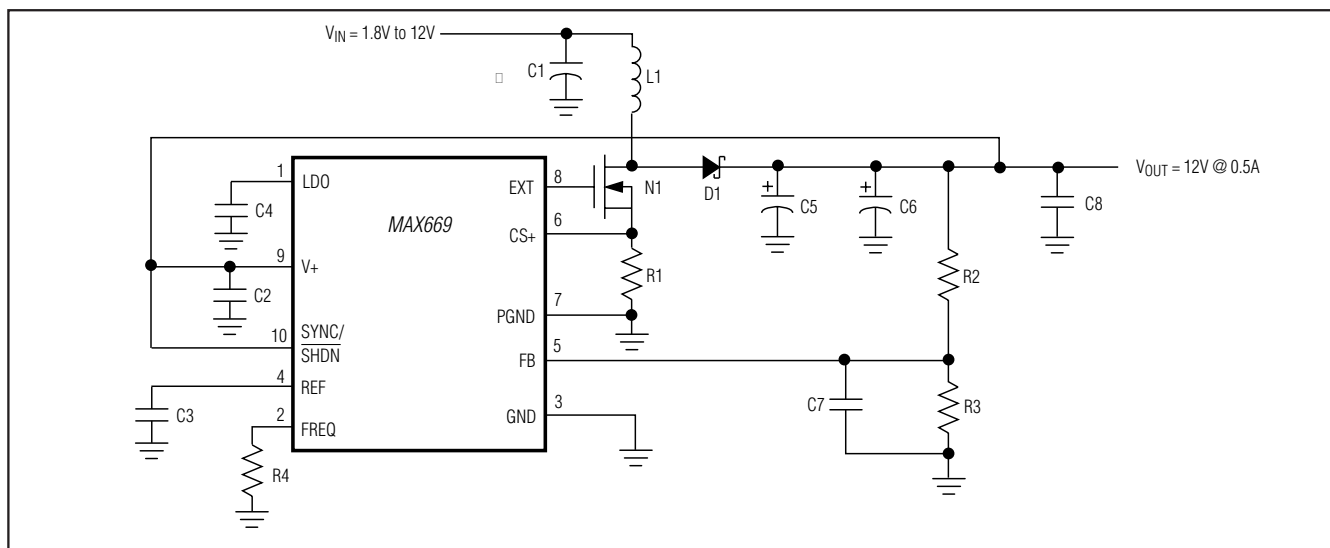
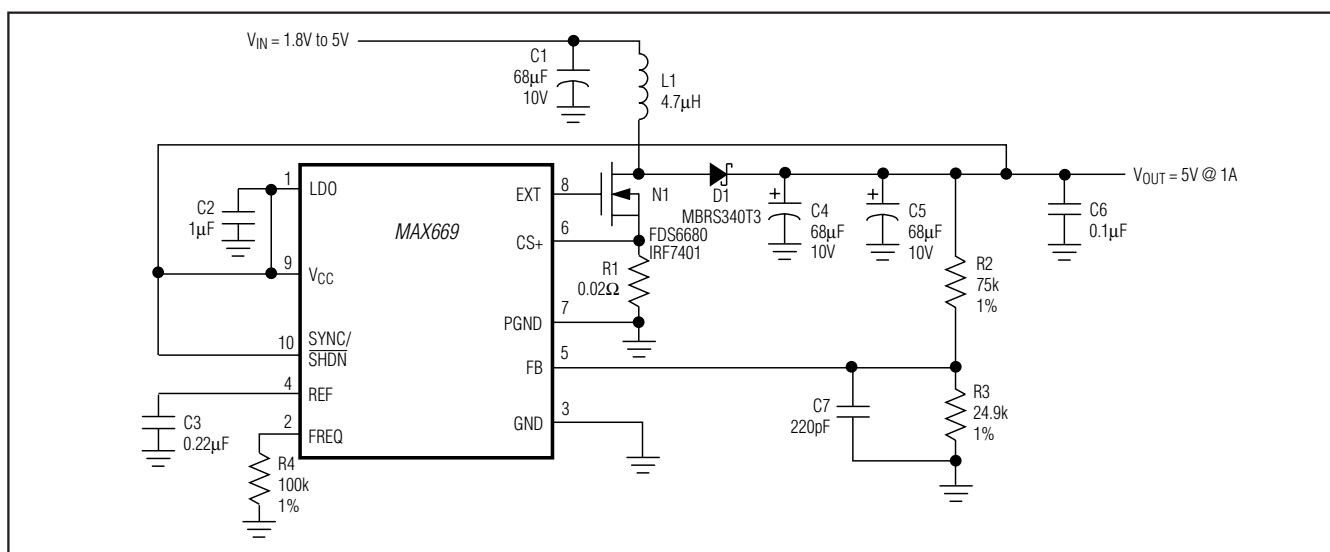

Figure 2. MAX669 High-Voltage Bootstrapped Configuration
Figure 3. MAX669 Low-Voltage Bootstrapped Configuration
(Circuits of Figures 2, 3, 4, and 5; $T_A = +25^\circ\text{C}$; unless otherwise noted.)
V_{CC} and LDO allow a variety of biasing connections to optimize efficiency, circuit quiescent current, and full-load start-up behavior for different input and output voltage ranges. Connections are shown in Figures 2, 3, 4, and 5. The characteristics of each are outlined in Table 1.
With V_{CC} connected to V_{OUT} , as in Figure 2, EXT voltage swing is 5V when V_{CC} is 5.2V or more, and $V_{CC} - 0.2V$ when V_{CC} is less than 5.2V. If the output voltage does not exceed 5.5V, the on-chip regulator can be disabled by connecting V_{CC} to LD0 (Figure 3). This eliminates the LDO forward drop and supplies maximum gate drive to the external FET.
* For standard step-up DC-DC circuits (as in Figures 2, 3, 4, and 5), regulation cannot be maintained if V_{IN} exceeds V_{OUT} . SEPIC and transformer-based circuits do not have this limitation.
The output voltage is set by two external resistors (R2 and R3, Figures 2, 3, 4, and 5). First select a value for R3 in the 10k Ω to 1M Ω range. R2 is then given by: